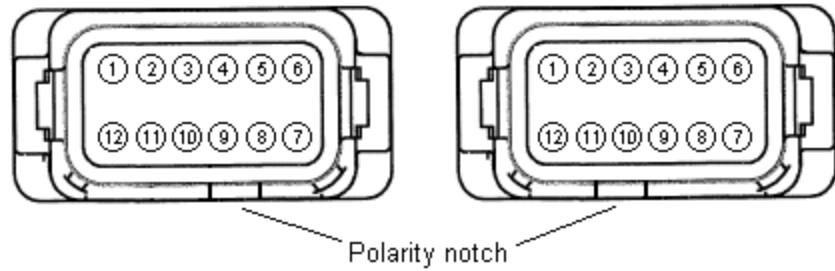
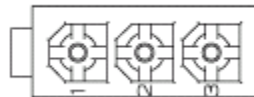

Figure 4-4. System Connectors J1 (left) and J2 (right) Terminal Position
Figure 4-6. Connector J3 CAN Port Pin Assignment
Generator line current is stepped down through a user-supplied current transformer (CT) on Phase B. Secondary current (5A) from that transformer is applied to terminals labeled CT1 and CT2. Consult current transformer instruction manual for CT polarity identification and install per Figure 4-7. See Figure 4-4 and Table 4-2 for terminal assignments.
Generator line current is stepped down through user-supplied current transformers. Secondary current (5A) from these transformers is applied to the J2 connector. Consult current transformer instruction manual for CT polarity identification and install per Figure 4-6. See Figure 4-4 and Table 4-2 for terminal assignments. *Note: All transformers should have the same CT ratio.*
The CAN port on the rear panel uses an AMP/Tyco Mini Mat-N-Lok connector. Figure 4-6 illustrates the pin assignments of the CAN port and Table 4-5 identifies the pin functions of the CAN port.